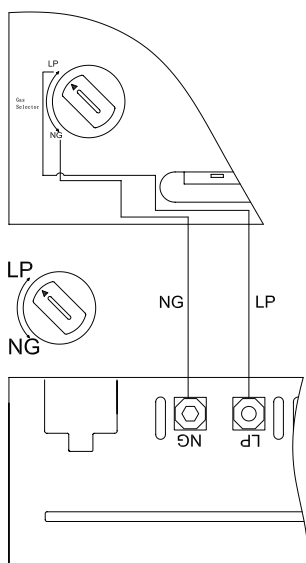

Figure 14
1. Remove top screw from cover plate, See Figure 14, and rotate to expose gas selection valve.